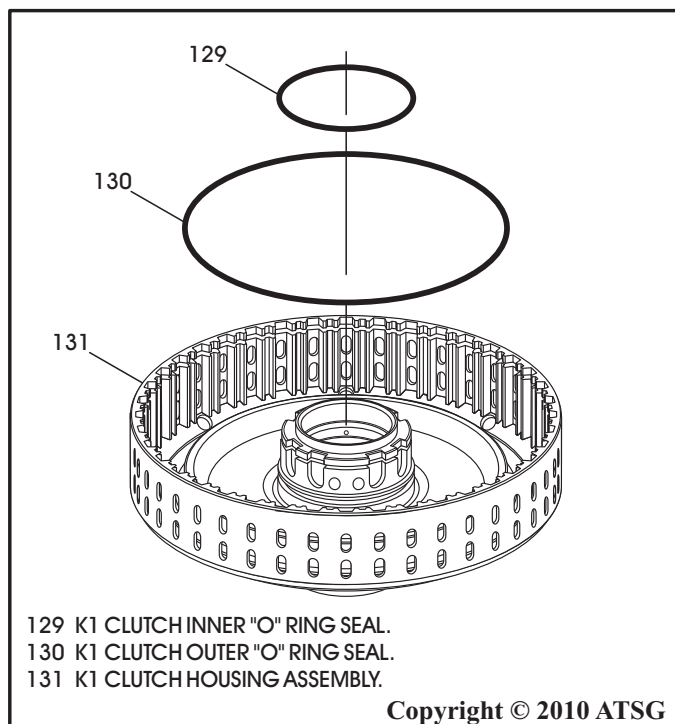

Figure 113
7. Install K1 clutch apply piston inner and outer "O" ring seals into the grooves in K1 clutch housing, as shown in Figure 113, and lube with a small amount of Trans-Jel®.